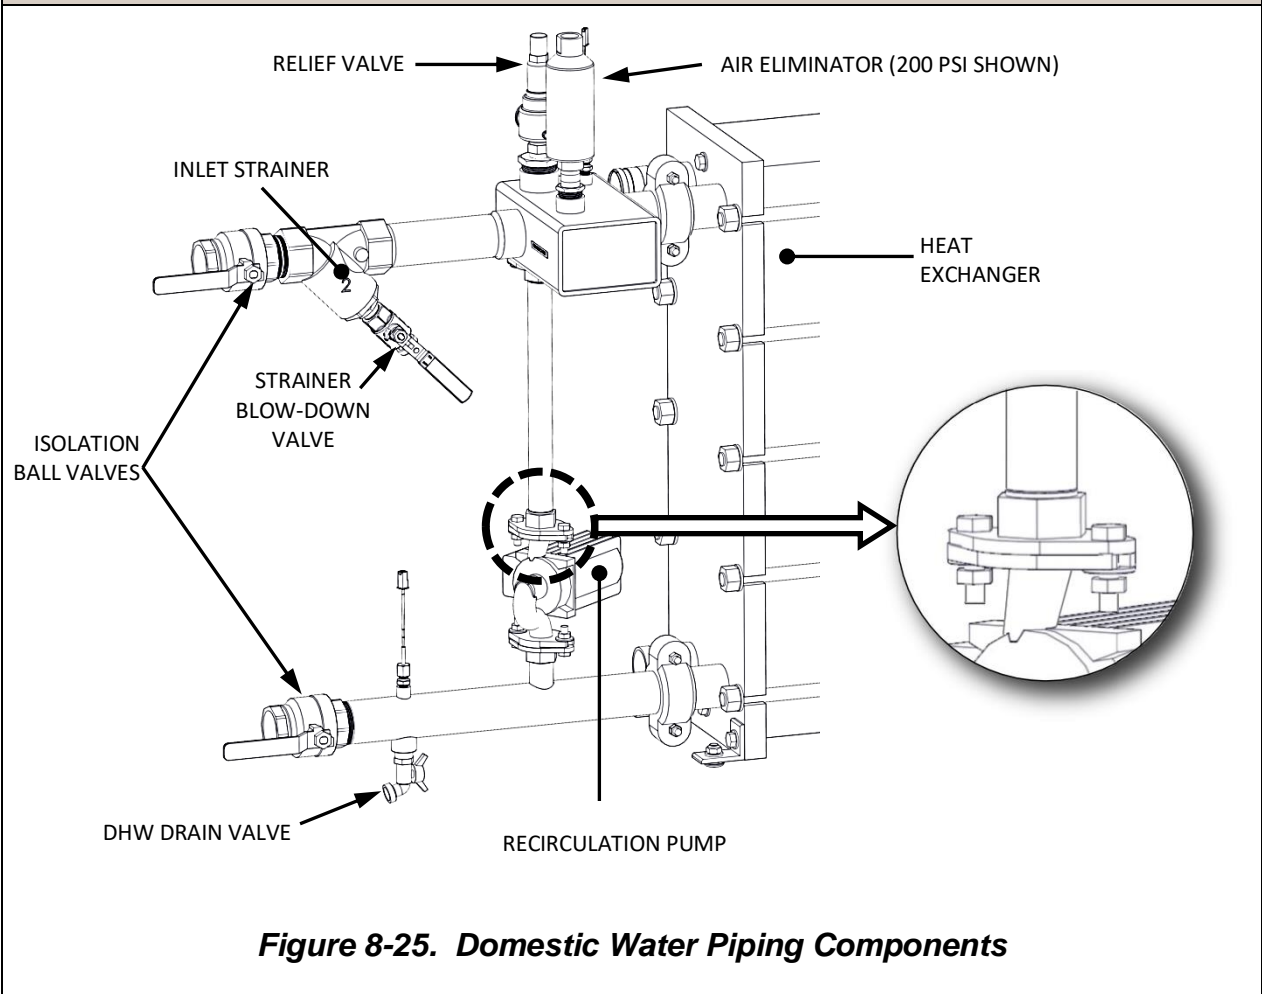

Figure 8-25. Domestic Water Piping Components
The SmartPlate Recirculation Pump is a wet rotor, continuous-duty Pump which has an expected service life of 5 years. The Pump is located in the DHW side of the piping assembly (Figure 8-25) to continuously circulate domestic water through the unit, even when there is no DHW demand. If the Pump fails, it must be replaced to ensure proper Water Heater operation. Replacement is accomplished as follows:
2. Connect a hose to the DHW Drain Valve (Figure 8-25).